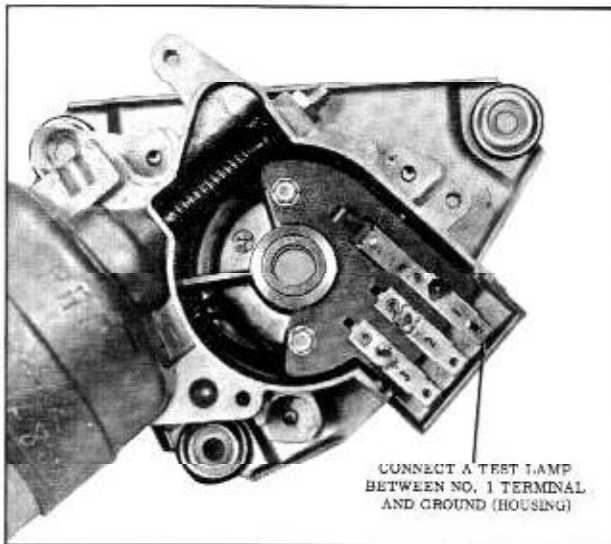

Fig. 13-132 Checking Wiper for Ground
2. Connect 12 volts to center terminal on terminal board and ground the motor housing, also connect the wiper ground strap to motor housing. Connect an ammeter in the supply line and connect jumpers as shown in Fig. 13-132.
Connect a test light as shown in Fig. 13-132. Test lamp should not light.